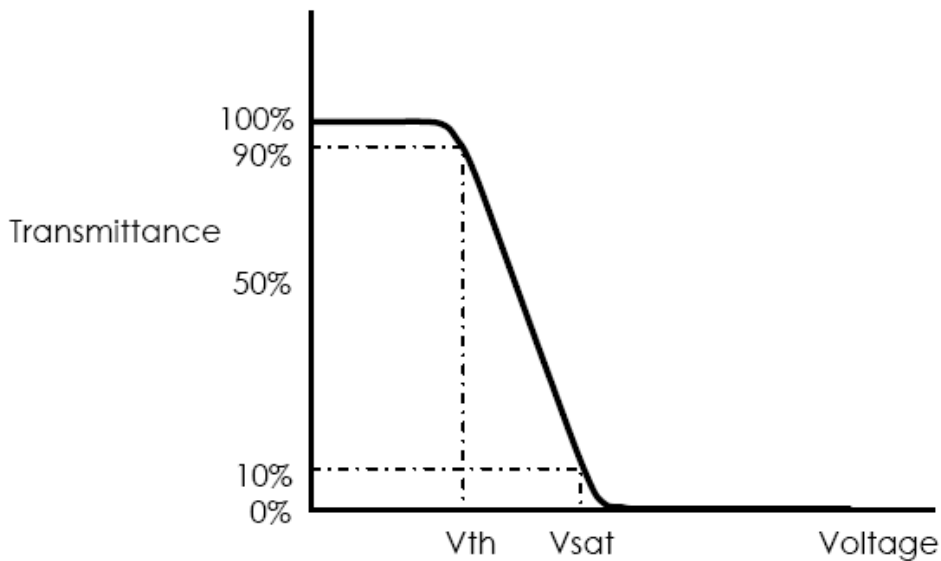

Figure 3. The definition of V_{th} & V_{sat}
- 6. The electro-optical response time measurements shall be made as FIGURE 3 shown in Appendix by switching the “data” input signal ON and OFF. The times needed for the luminance to change from 10% to 90% is T_r , and 90% to 10% is T_d